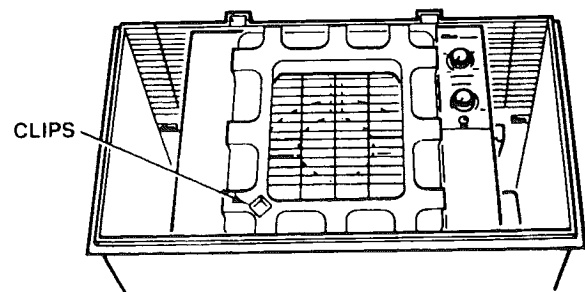

Figure 4
1. Locate lid retention clips in styrofoam packing material on top of motor support section. (See Fig. 4) Dispose of packing material.